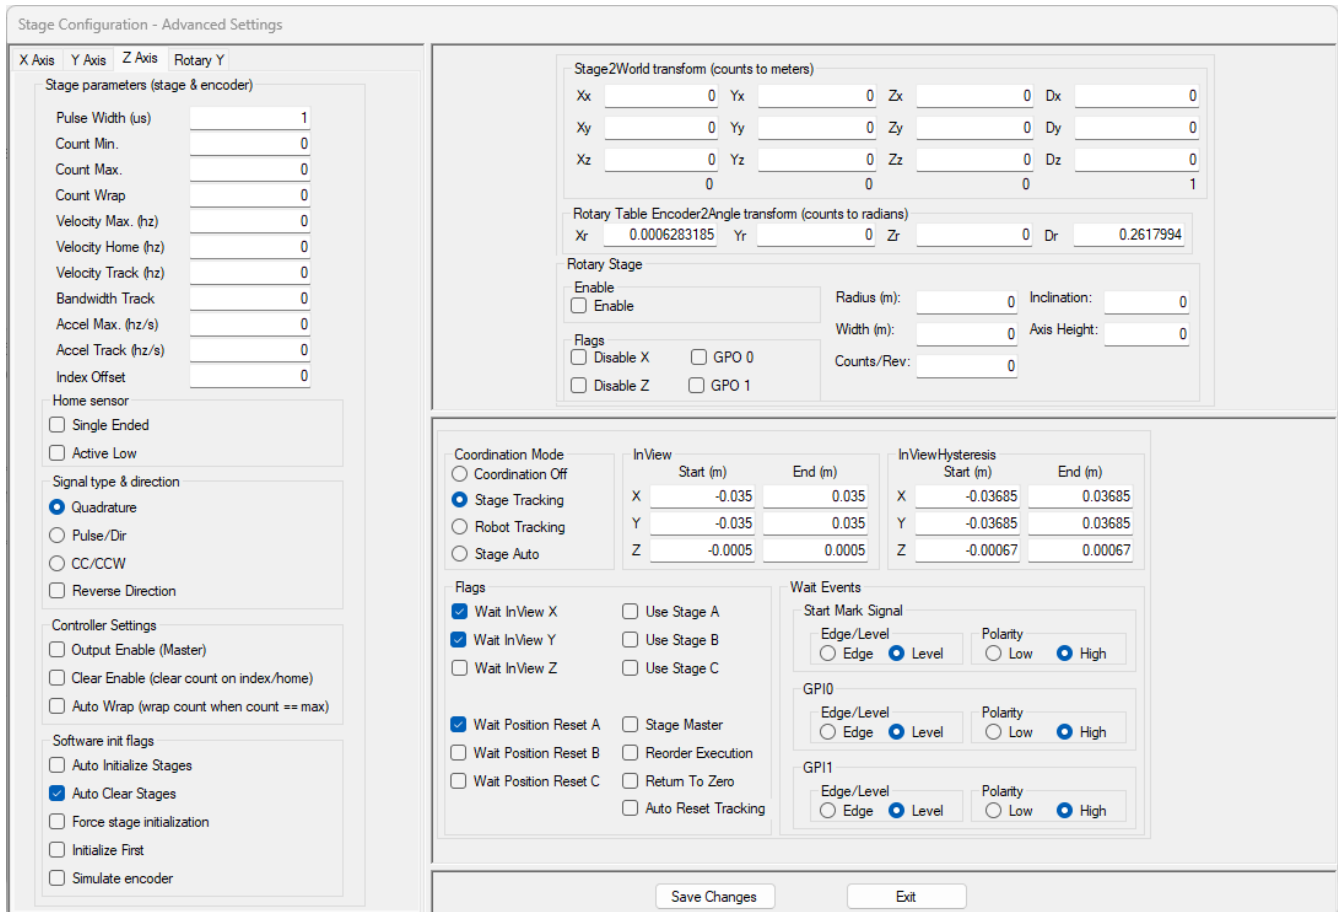

Figure 397: Advanced Configuration Window
3. Once the scanner is connected, click on **File>Advanced Settings**. This will open the Advanced Configuration Window as shown in Figure 397 (below).
- **Rotary Stage:** This is not applicable for encoder applications. All fields should be left as shown in Figure 397.